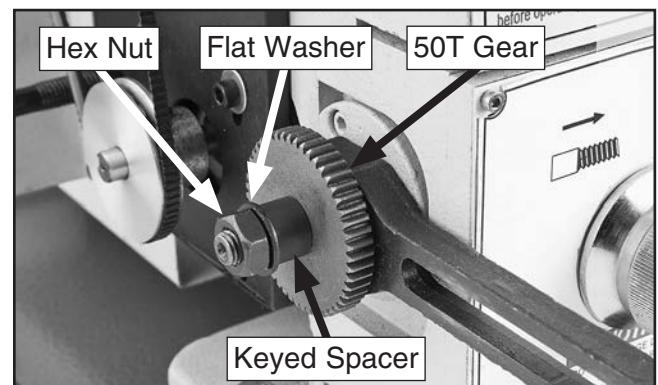

Figure 78. 50T gear installed on lower shaft.
10. Slide 50T gear onto lower shaft with hub facing in, re-install keyed spacer and flat washer, then thread on hex nut finger-tight, for now (see **Figure 78**).